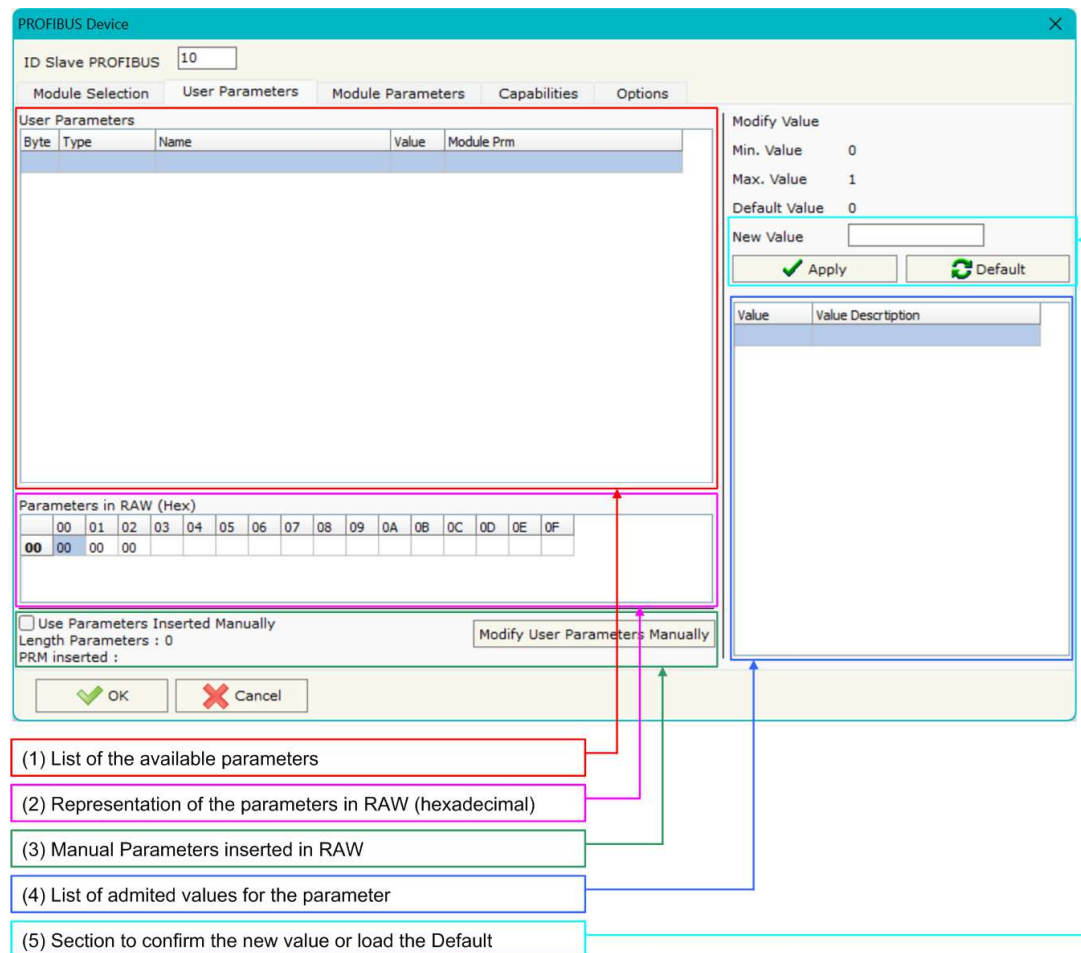

Figure 9: "PROFIBUS Device – User Parameters" window
The section "User Parameters" is used to modify the parameters of the PROFIBUS slave (Fig. 9).
- The List of all Parameters available for the PROFIBUS device ("User Parameters") (Fig. 9, point (1));
- The Configuration of all parameters in RAW ("Parameters in RAW (Hex)") (Fig. 9, point(2));
- The **"Use Parameter Inserted Manually"**, enable this option is possible to insert manually the parameters of Device and also of the Modules. Using the **"Modify User Parameters Manually"** button is possible to insert/modify the parametrization of the device (and/or modules). For more info see below. (Fig. 9, point(3));
- The admitted value for the selected parameter. It is possible to select the value desired and confirm it with the **"Apply"** button. If no value appears in this table, the "Min Value" and "Max Value" are the limit of the parameter. (Fig. 9, point(4));
- The **"Apply"** button is used to confirm the new value of the parameter, the **"Default"** button is used to load the factory value for the parameter. In **"New Value"** edit box it is possible to set the new value. (Fig. 9, point(5)).